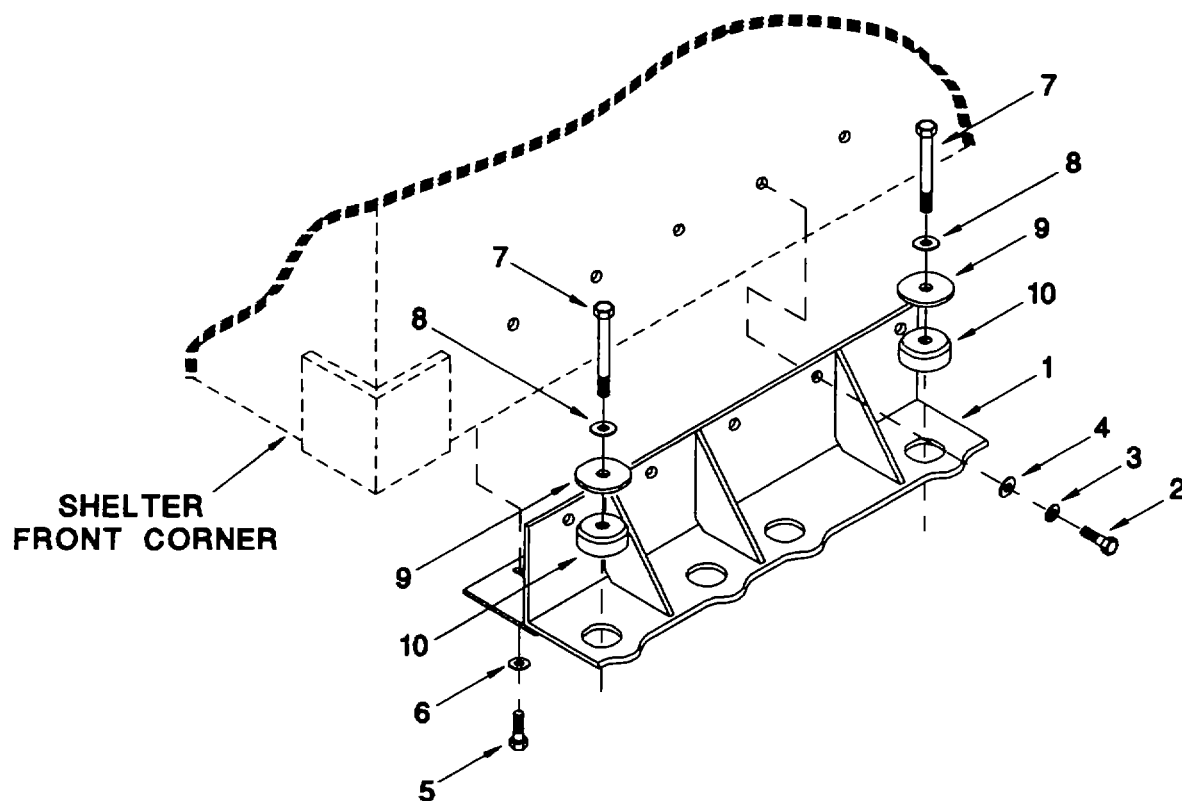

Figure 4-2. Front Bracket Mounting Assembly
c. Front Shelter Preparations. (Refer to Figure 4-2)
- (1) Remove bolts/plugs from the front and bottom front surfaces of the shelter.